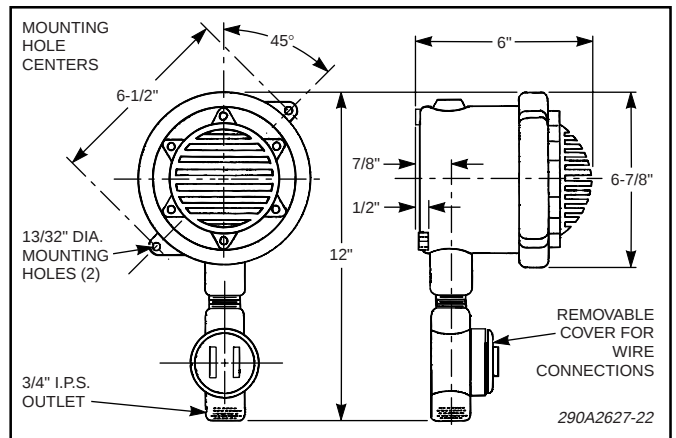

Figure 1. Model FHEx Mounting Dimensions.
## 2. Mounting Arrangements (see figure 1).
This device can be mounted on any relatively flat surface. Conduit connection can be made to 3/4" threaded opening in splicing conduit attached to this device (see figure 1).
- b. Using the horn as a template, scribe drill position marks on the mounting surface. See figure 1 for mounting hole locations and dimensions.